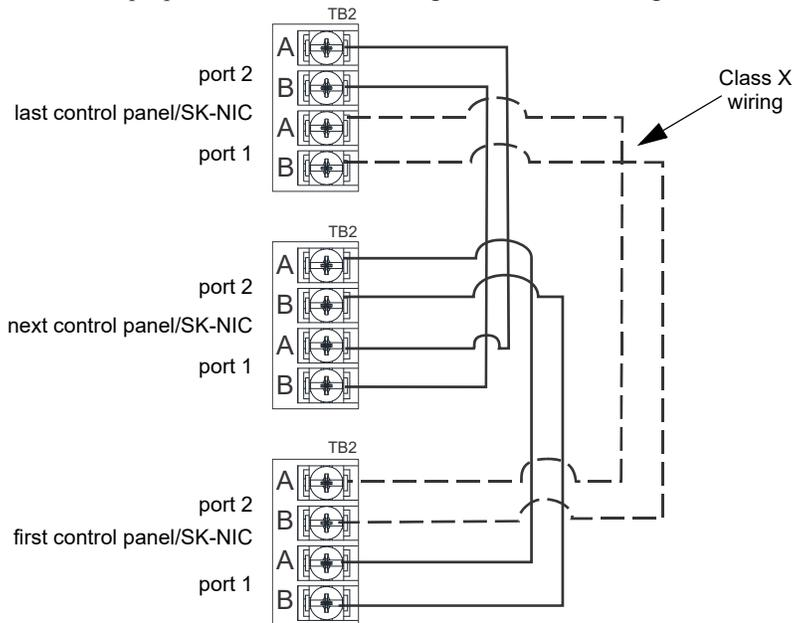
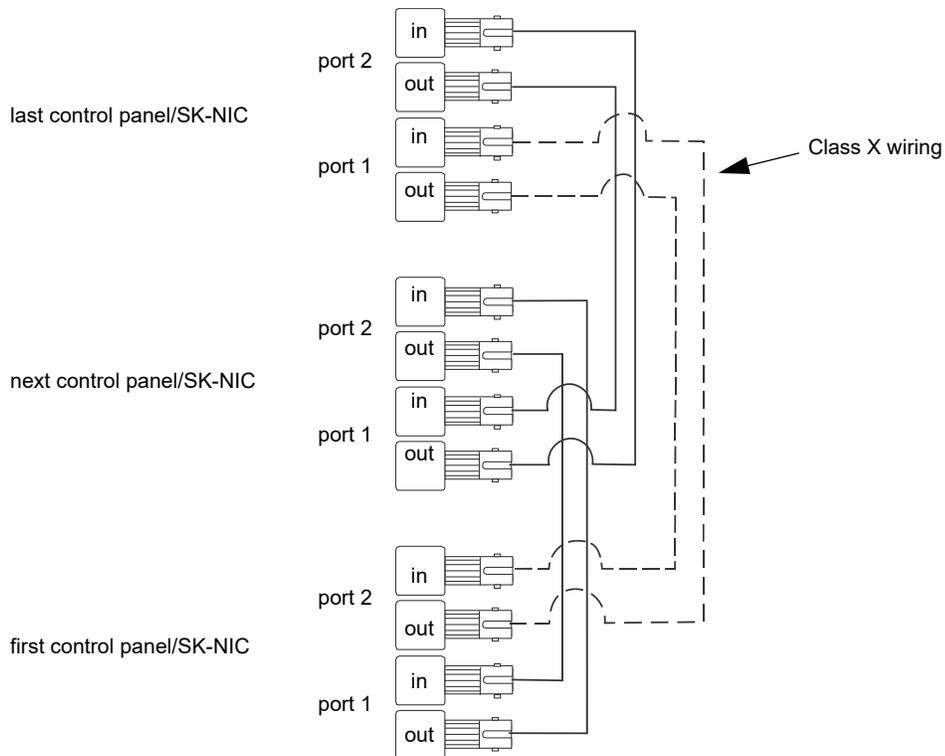
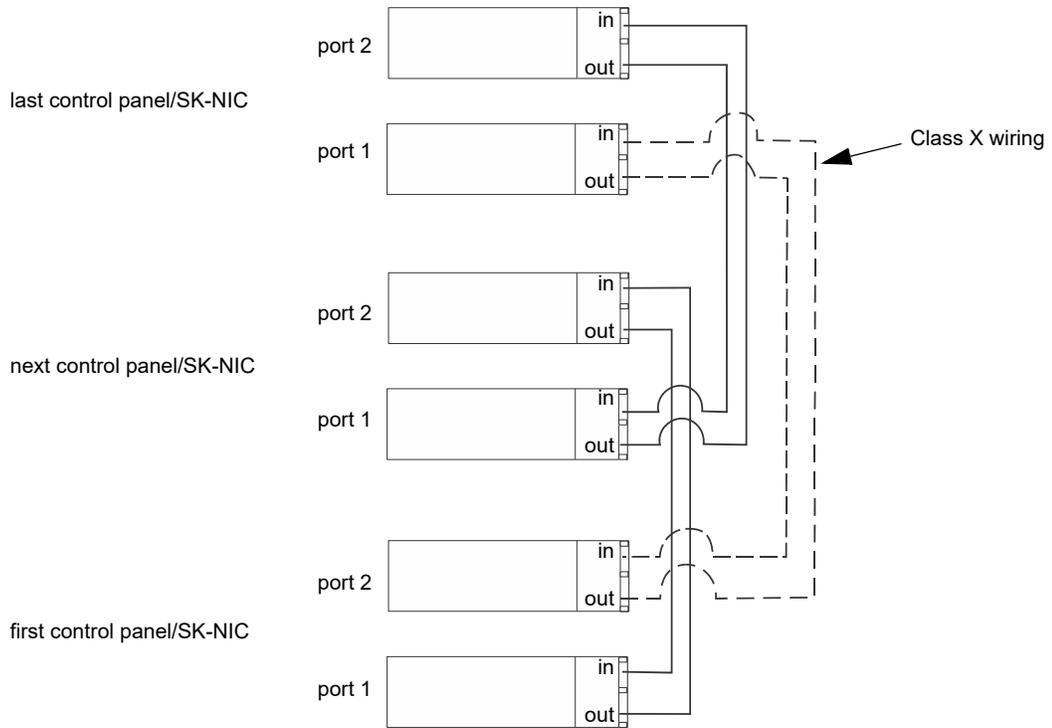
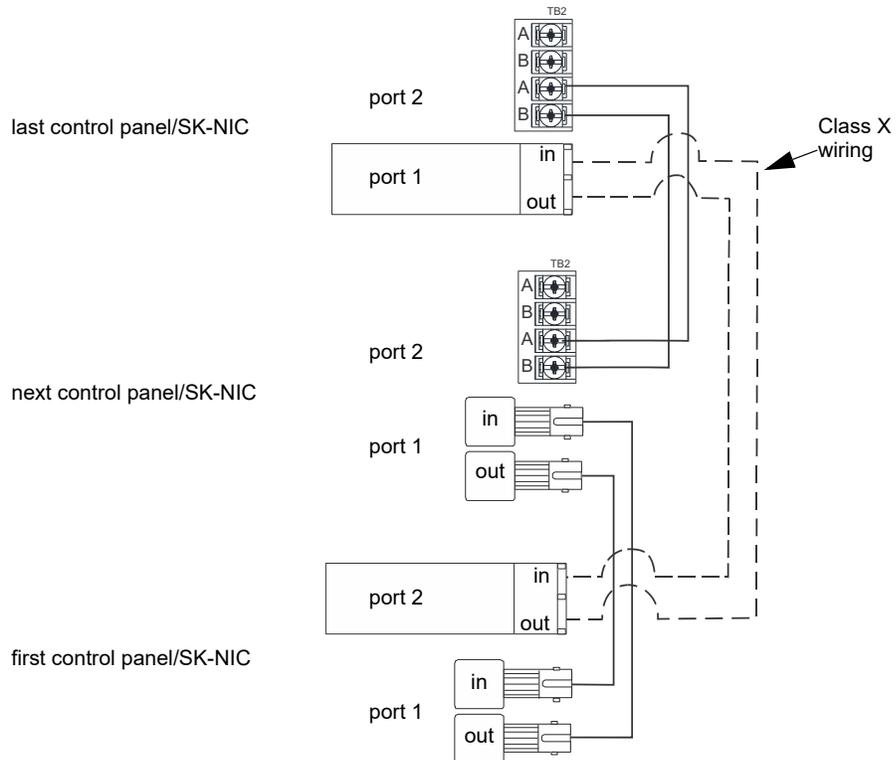

Figure 5.7 Twisted Pair Wiring Configuration
Figure 5.8 Fiber-Optic Wiring Multi-Mode Example
Figure 5.9 Fiber-Optic Wiring Single-Mode Example
Figure 5.10 Twisted-Pair and Fiber-Optic Combination Wiring Example
5. Based on the type of data medium chosen, run the twisted pair wiring/fiber optic cable to the next SK-NIC using a Class B or Class A wiring method. A combination of both medium types can be used. See Figure 5.7, Figure 5.8, Figure 5.9, and Figure 5.10 for SK-NIC wiring examples.
Unshielded twisted-pair wiring between multiple panels is shown below in Figure 5.7. Class X wiring is shown with a dotted line.
Fiber-optic cable between multiple panels is shown below in Figure 5.8 and Figure 5.9. Class X is shown with a dotted line.
A mixture of fiber-optic cable and twisted pair wiring between multiple panels is shown in Figure 5.10. Class X cabling is shown with dotted line.